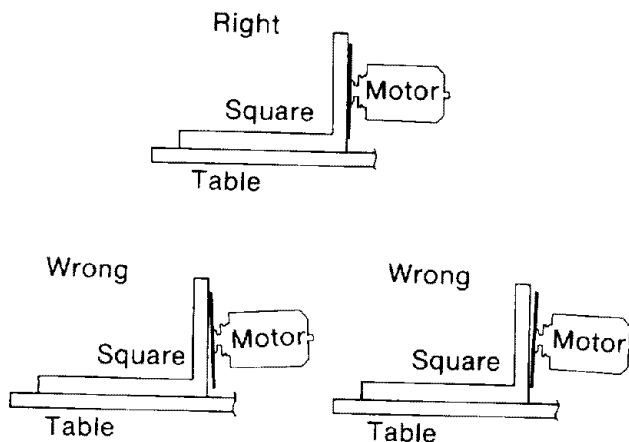

Fig. 57
7. If the square is flush with the *blade* after each rotation, no change is needed. (Figure 57) Go to the next section, or
If there is a gap between the square and the *blade* after any rotation (Figure 57), go to step 8. **Note:** Saw blades are manufactured to different specifications. Therefore a small gap is permissible on some brands.